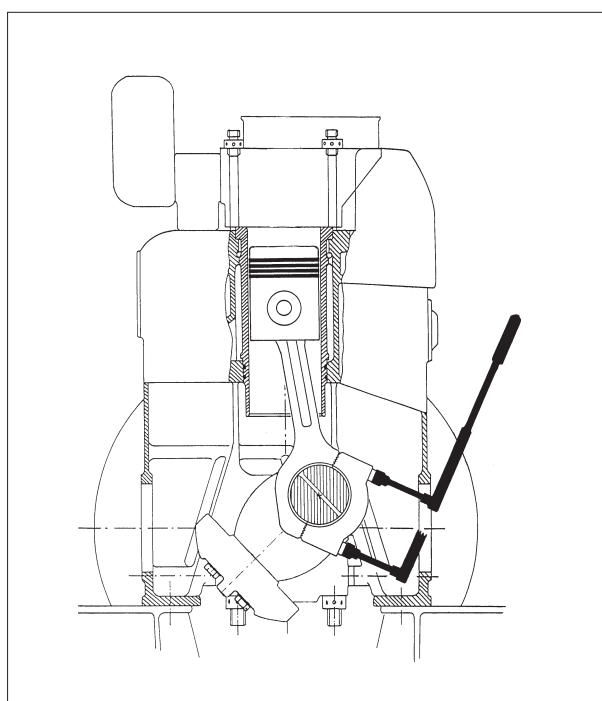

Fig 1.
- 2) Turn the crankshaft in a position allowing the connecting rod bearing cap to be dismantled, see *fig 1*.